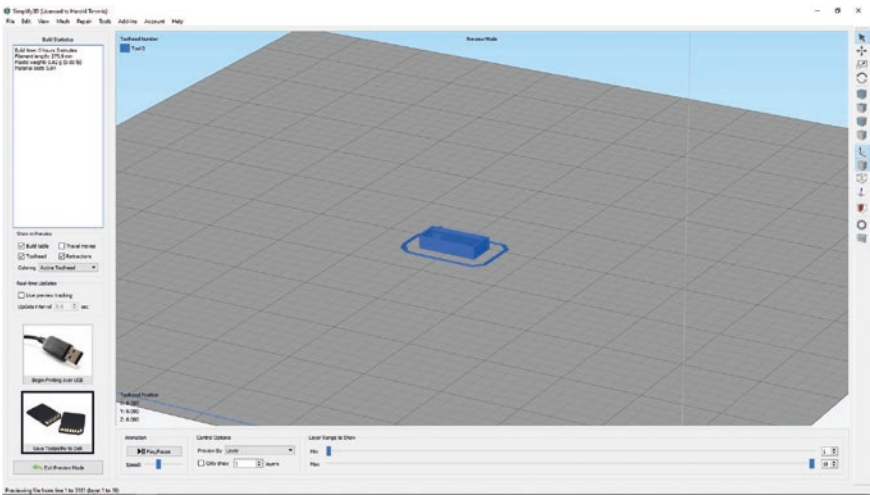

Figure 4-54. *When ready, click the “Save Toolpaths to Disk” button*
11. Finally, you will need to create the G-code your printer will use to create the 3D object. Click the “Save Toolpaths to Disk” button and save the file to your computer or an SD card. See Figure 4-54.